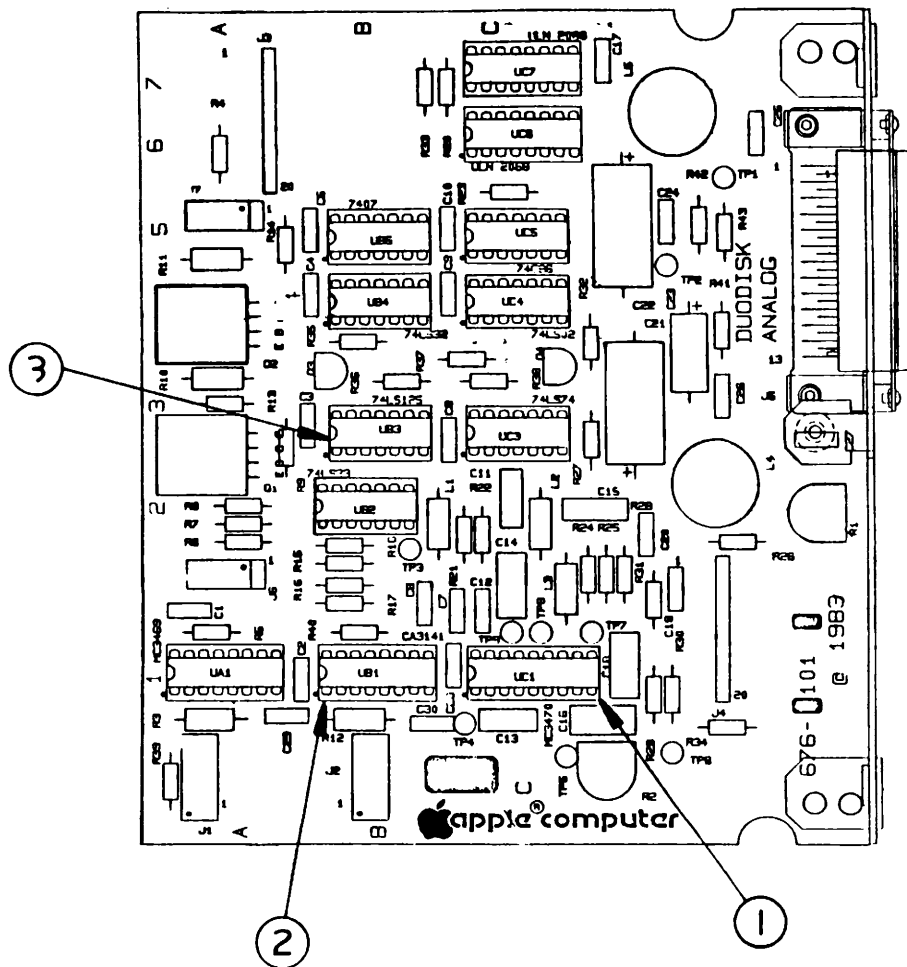

FIGURE 3
IPL.7	Analog Card (Figure 3)
□ ANALOG CARD (Figure 3)